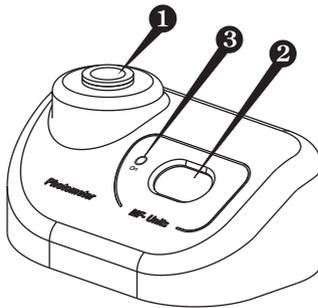

Fig.3 General view
- 3.4.5. Insert the tube with the calibration value corresponding standard into the socket (fig.3/❶) of Densitometer.
- The display goes off, if no tube is inserted in the socket during one minute. Press On key (fig.3/②) to activate the unit.
- 4.3 The following indication will be shown on the display (fig.3/②):
- 4.4 Shake the tube with the solution (it is recommended to use vortex for shaking, e.g. Vortexer PV-1) and insert into the socket (fig.3/❶). The McFarland value for the solution will be shown on the display (fig.3/❷).